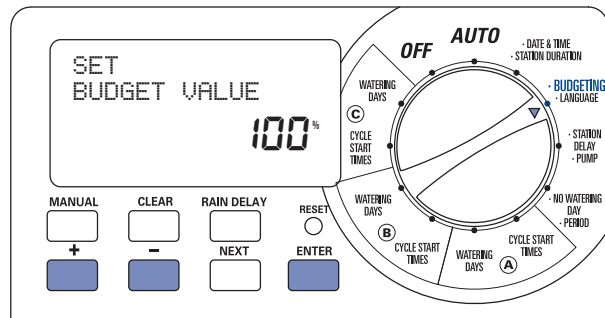

Figure 14: Set “Water Budgeting”
1. Turn rotary dial to **BUDGETING** position [See Figure 14]